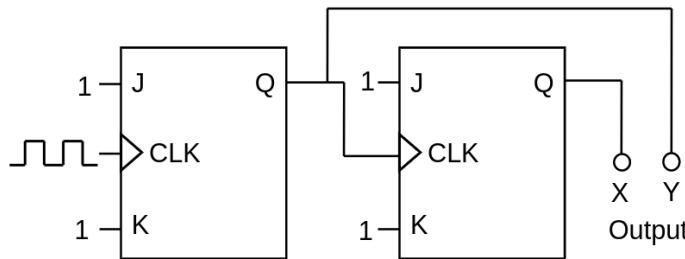

Fig. 5.27
27. The circuit shown in Fig. 5.27 below uses ideal positive edge-triggered synchronous J-K flip flops with outputs X and Y. If the initial state of the output is $X=0$ and $Y=0$, just before the arrival of the first clock pulse, the state of the output just before the arrival of the second clock pulse is _____